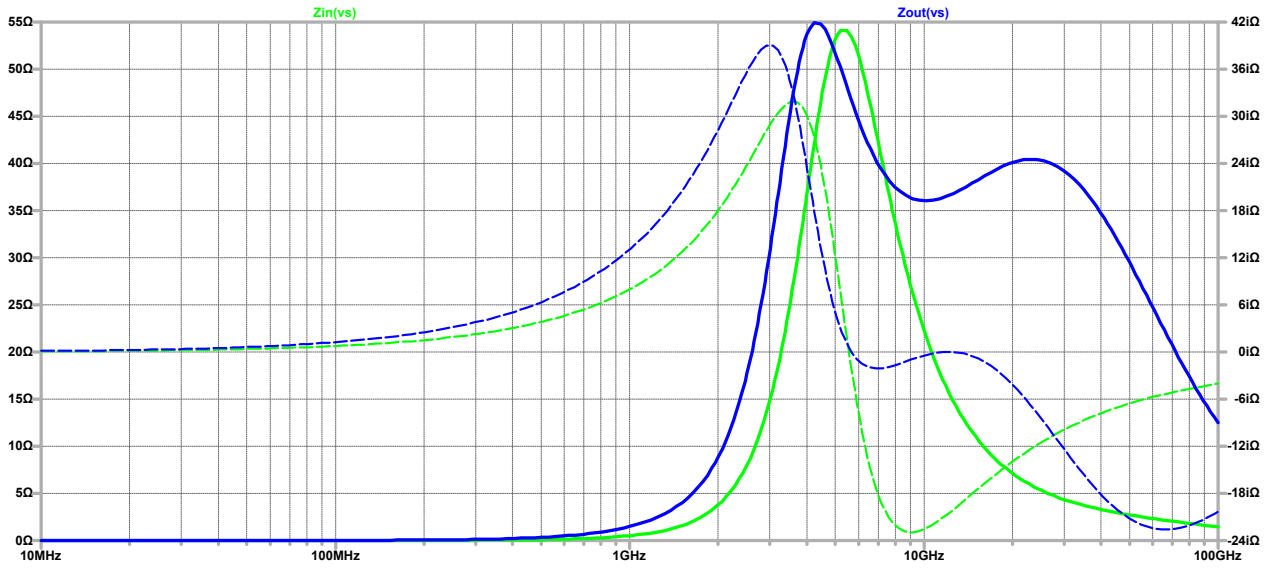

Figure 13: Input and output impedance with $Z_{in} \approx 50\Omega$ and $Z_{out} \approx 50\Omega$
- (a) Matching $Z_{in} \approx 50\Omega$ and $Z_{out} \approx 50\Omega$ at 5.5GHz. After some fine tuning, the matching element values are shown in Table 3. The specifications of the resulting LNA are shown in Table 6, with the simulated results in Figure 13, 14, and 15.